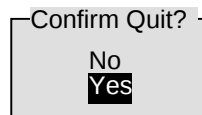

Figure 3-4
2. Press **Enter**. A window will pop up asking you to confirm that you want to quit. (See **Figure 3-4**)